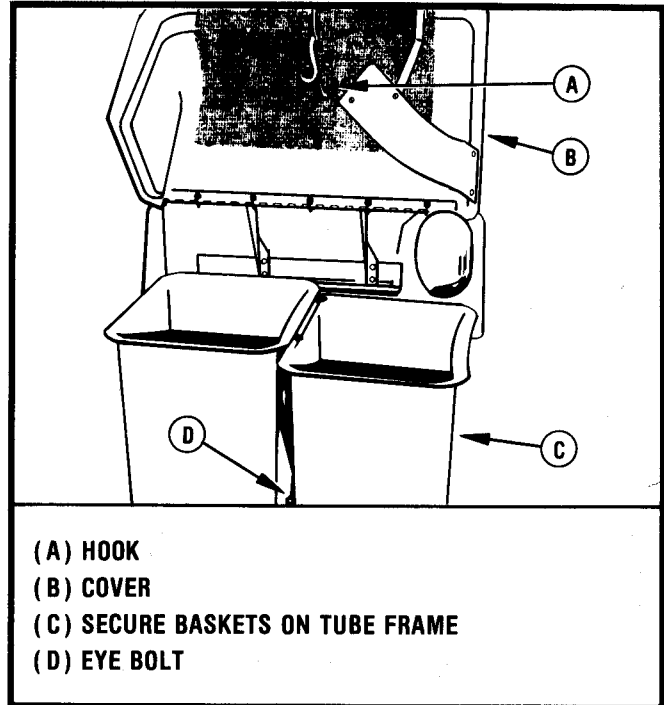

FIGURE 11-13
BASKET INSTALLATION — FIGURE 11-13
1. Install grass bagger baskets as shown in Figure 11-13.